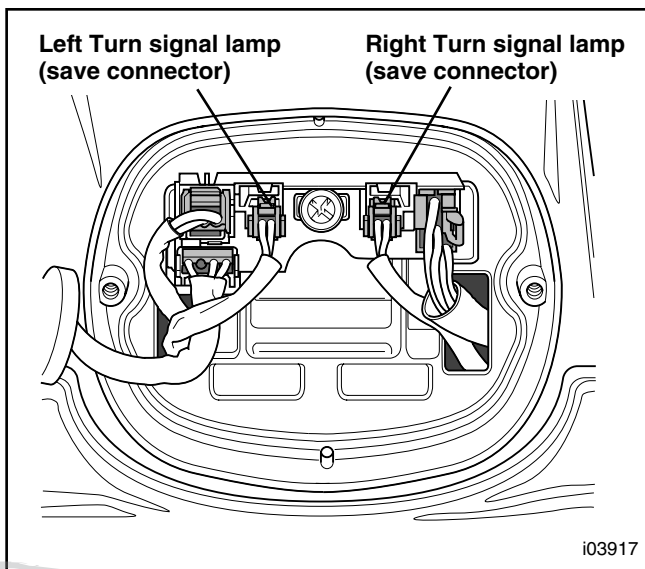

Figure 2. Turn-Signal Connectors
2. **1991 – 1998 models only:** See Figure 2. Trace right directional wire routing along underside of rear fender. Remove cable strap located on top side of rear fender near the rubber grommet. Gently pull wire rearward along underside of fender and into directional housing to allow for additional length of wire within directional housing.